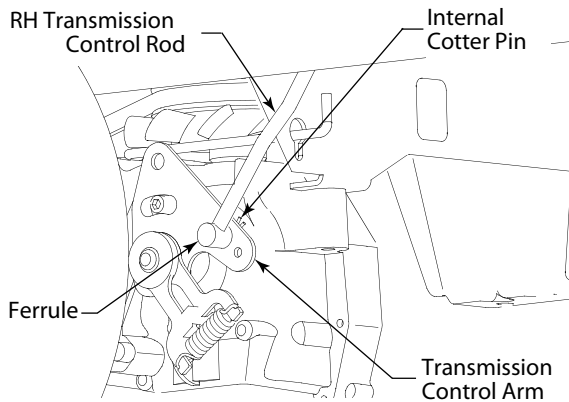

Figure 7-9
- If only one wheel is rotating, locate the transmission control rod beneath the frame at the front of the rear tire. If both wheels rotate, locate both control rods. See Figure 7-9.